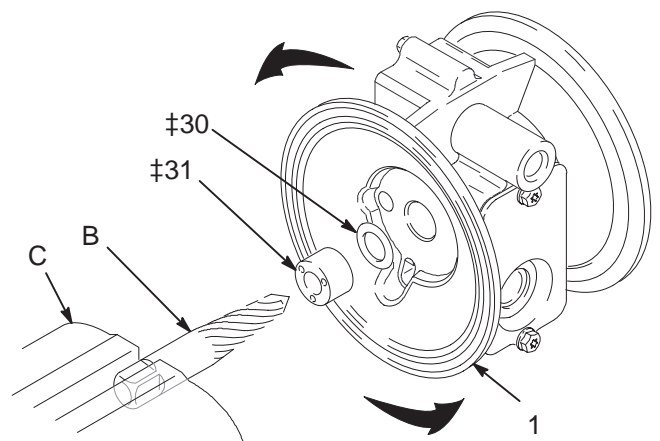

Fig. 20
6. Inspect the shaft (29) for wear or scratches. If it is damaged, check the bearings (31‡) also. Replace parts as needed. To remove the bearings, place a 13/32 EZY-OUT (B) in a vise (C). Position the pump housing (1) over the EZY-OUT (see Fig. 20). Turn the housing in the direction shown by the arrows to remove the bearing.
7. Hook the shaft seals (30‡) with an o-ring pick and pull them out of the housing (1).